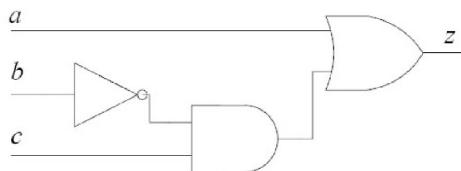

Fig. 4.28
53. Consider the boolean Function $z(a, b, c)$ from Fig. 4.28 below. Which of the following minterm lists represent the circuit given above?